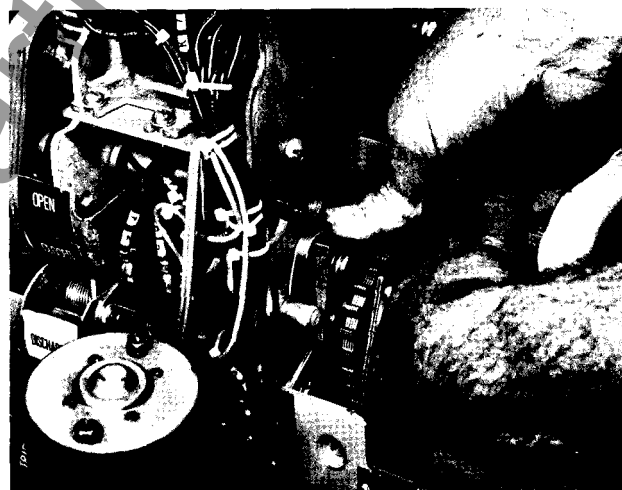

FIG. 6
9. In assembling the new ratchet assembly be sure to orient the holding pawl so that its torsion spring loads it against the ratchet, see figure 6.